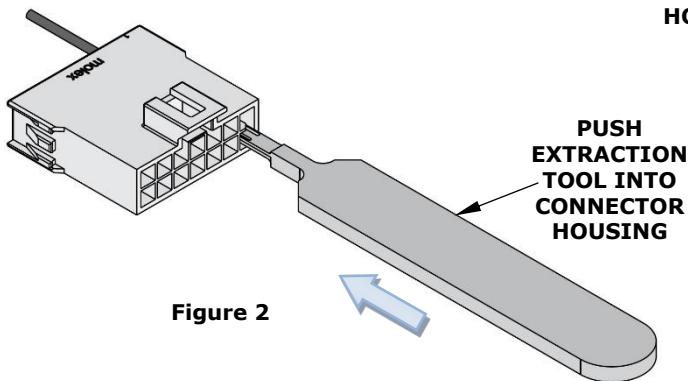

Figure 2
3. Insert the extraction tool into the front of the connector housing. See Figure 2. The extraction tool should lightly rest on top of the nose of the terminal, as shown in Figure 3. Make sure that the terminal nose is straight in the housing.